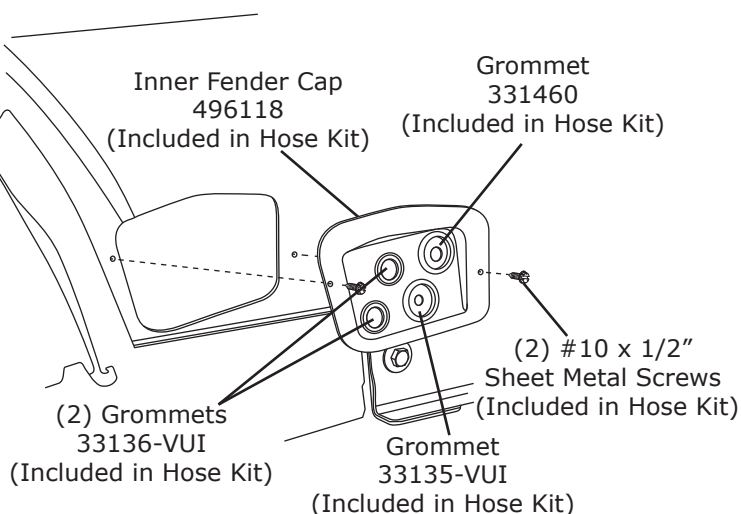

Figure 12a
2. Install (4) grommets in inner fender cap (See Figure 12a, below).
3. Install inner fender cap using (2) #10 x 1/2" sheet metal screws as shown in Figure 12a, below.